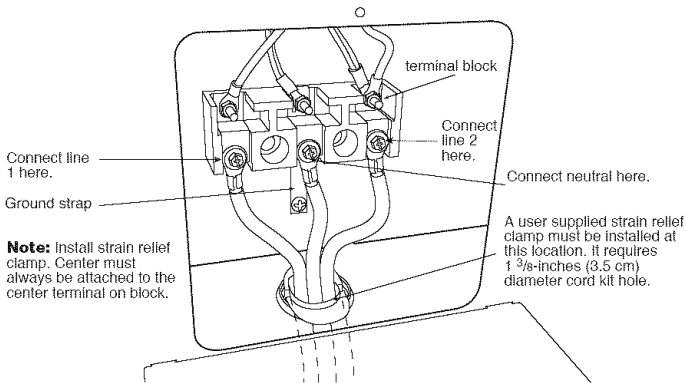

Figure 10
For existing installations ONLY, refer to Figure 10.
- 2 Insert the end connectors for line 1, line 2 and neutral and tighten securely to the terminal block. See Figure 10.
A ground strap is installed on this range which connects the center terminal of the neutral terminal block to the range chassis. The ground strap is connected to the range by the center, lowest screw. See Figure 10. The ground strap must not be removed unless National, State or Local Codes do not permit use of a ground strap.